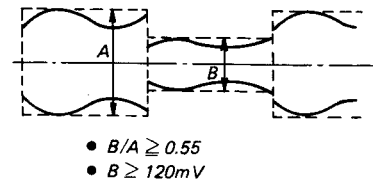

Fig. 1-4-18 Envelope output and output level difference
2. In playback using the same video deck as used for the recording, (with a T-120) the video envelope should meet the specification shown in Fig. 1-4-18.